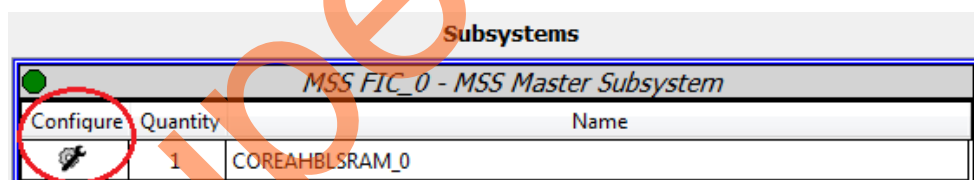

Figure 11 • CoreAHBLSRAM Configuration
15. Configure **COREAHBLSRAM_0** by clicking the Configure icon, as shown in Figure 11.